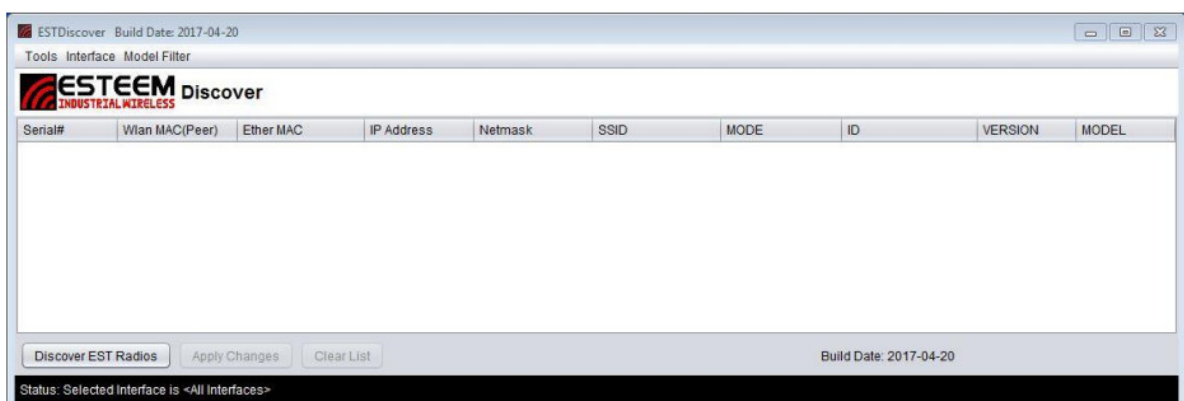

Figure 5: ESTeem Discovery Utility
- Once both the above programs have been installed, save the ESTDiscover.exe file to any location on your computer such as the Desktop. Double click the ESTeem.exe program and Figure 5 will be displayed.